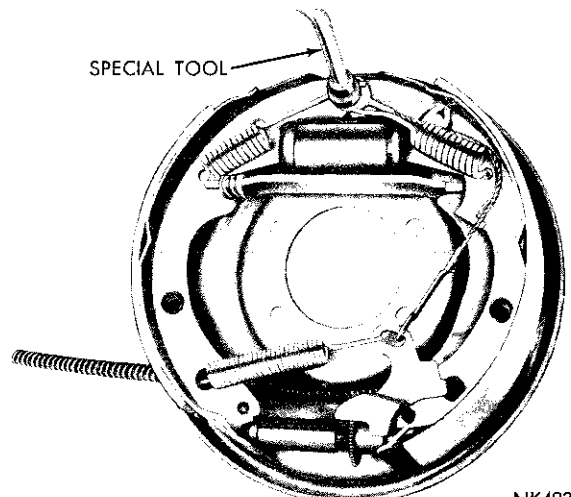

Fig. 6—Removing or Installing the Brake Shoe Return Springs (Rear)
(2) Using Tool C-3785 remove the brake shoe return springs (Fig. 6).